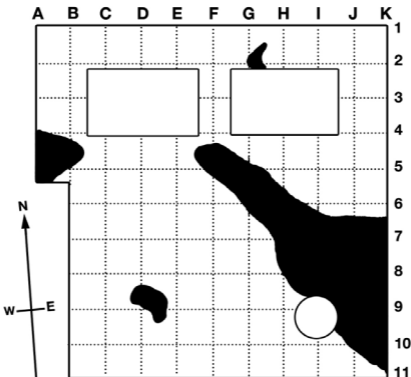

Fig. 5. Roof Grid Sketch
2. Select a convenient grid span e.g. 6ft (2m). On the North/South perimeter, mark 1,2,3 etc and on the East/West perimeter mark A, B, C etc. Transfer these grid system markings to your roof sketch. See Fig. 5.
In Fig.5 position A4 is the first point of moisture contact. A telescopic aluminium handle can be attached to the RWS when carrying out a moisture survey on a horizontal surface to avoid having to bend down when taking readings. As the survey continues, a moisture profile will build up, indicating areas which require attention.